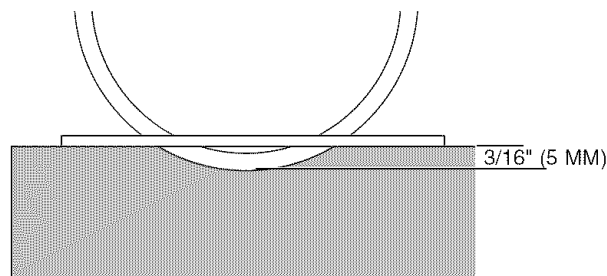

FIG. 8
- Water nozzles (M) can be fully retracted to allow for maximum capacity (Fig. 8).